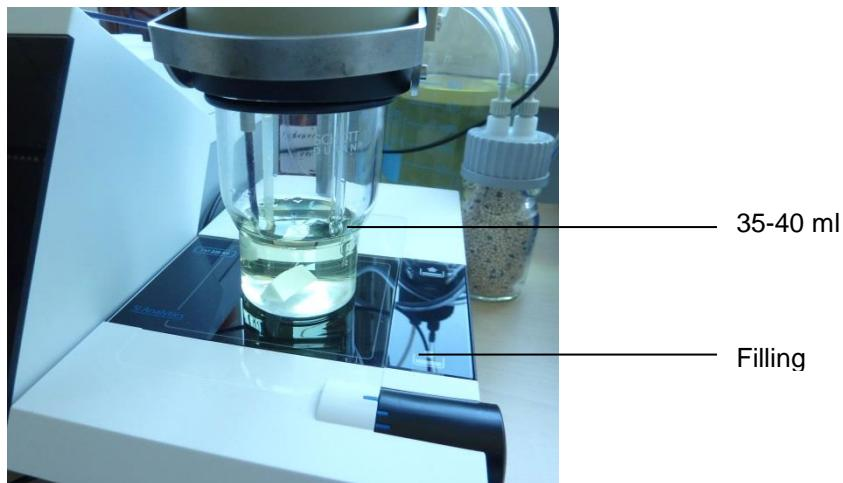

Fig. 31
- i** Pump solvent (approx. 35-40 ml) into the titration vessel until the titration tip and the electrode are completely immersed (Fig. 31).